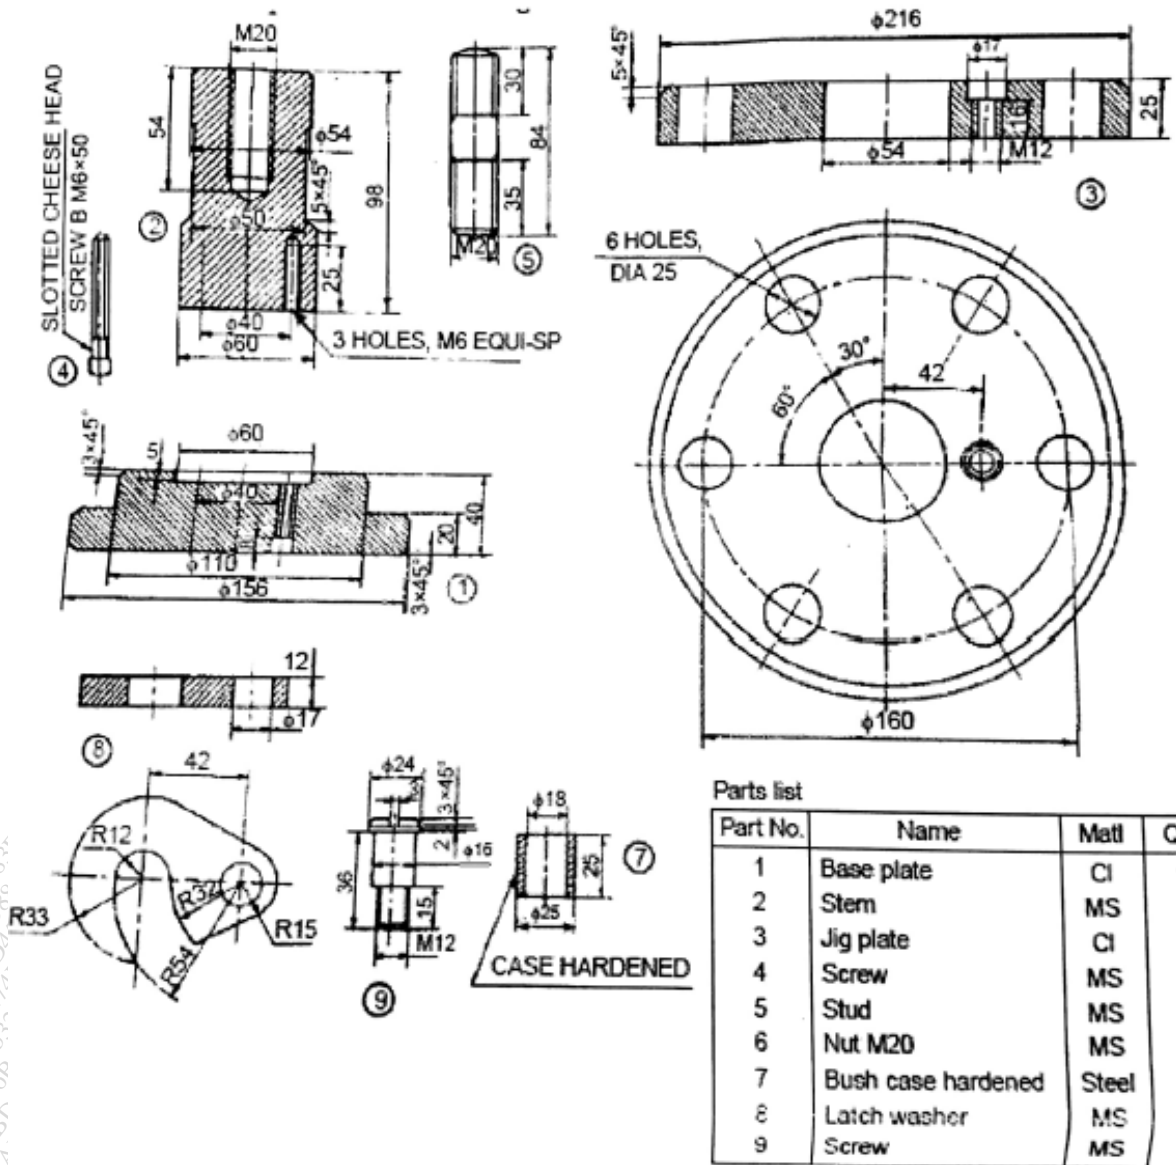

Figure.3
Q.5 Figure 3 shows details drill jig along with its part list. Prepare the following views
Q.5 Figure 3 shows details of screw jack assemble all parts and Draw sectional front view and top view. Also tabulate bill of material.